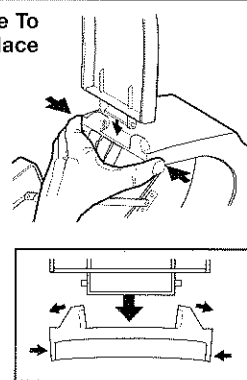

FIGURE 5 - Attaching/Detaching the Front Top Cover
- The front part of the top cover is attached to the rear part with plastic pivot points. To attach or detach the front part to or from the rear, squeeze the back part of the top cover just below the pivot point to spread the opening where the front part attaches. This will allow the pivot knobs to fit into the slots. *See Figure 5.*